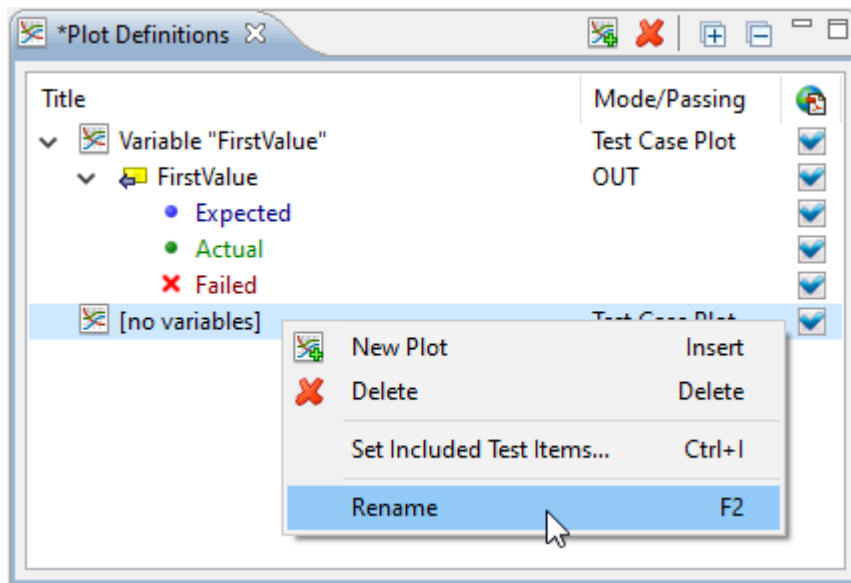

Figure 6.167: Rename a new plot
- Right-click on the newly created plot to rename it or set the included test items (see figure 6.167).